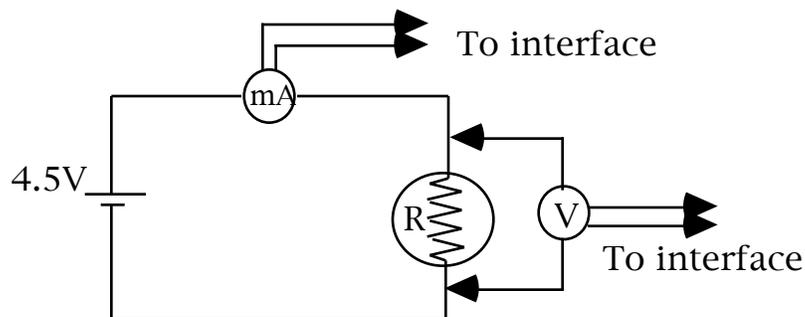

Figure 1.
1. Construct a circuit shown in Fig. 1.